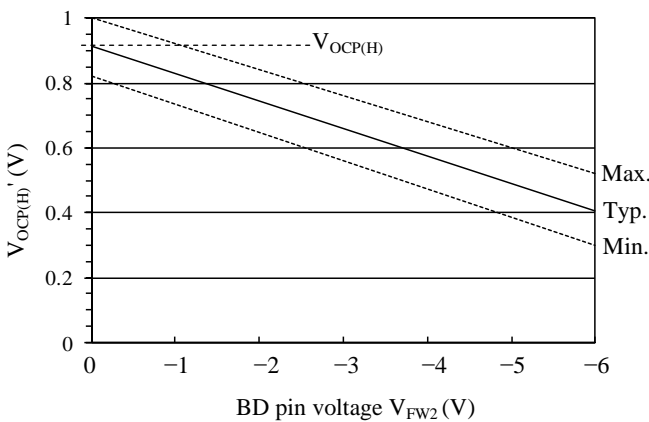

Figure 9-28 Overcurrent threshold voltage after input compensation, $V_{OCP(H)'}$ (reference for design target values)
4) $V_{OCP(H)'}$ is the overcurrent threshold voltage after input compensation. Figure 9-28 shows a relationship of $V_{OCP(H)'}$ and BD pin voltage, V_{FW2} . V_{FW2} at maximum AC input voltage is calculated by using Equation (7). $V_{OCP(H)'}$ and this variation are gotten by using the result from Figure 9-28. When $V_{OCP(H)'}$ including variation becomes the Bottom-Skip Operation Threshold Voltage 1, $V_{OCP(BS1)} = 0.572$ V, or less, the operation of IC is one bottom-skip only and the output current may be less than target output current, I_{OUT} .
Referring to Figure 9-28, when V_{FW2} is compensated to -2.92 V , the overcurrent threshold voltage after input compensation, $V_{OCP(H)}$, is set to about 0.66 V (typ).